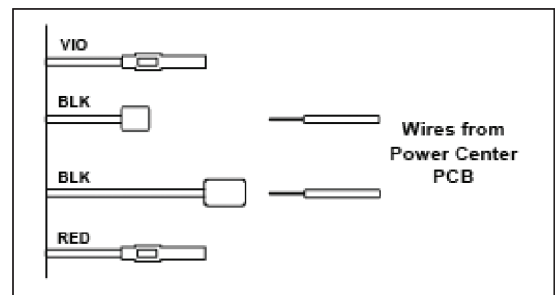

Figure 3-20 — Wiring with AquaLink RS
3. Connect two #14 gauge wires, designed for use in hot environments, to the two black wires, marked heater connection, on the panel mount receiver in the I-Wave Control Center and attach the other end to the two black wires on the heater. (See Figure 3-20.)